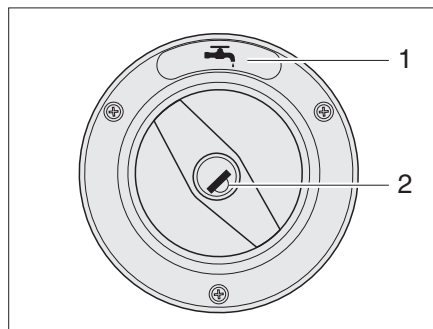
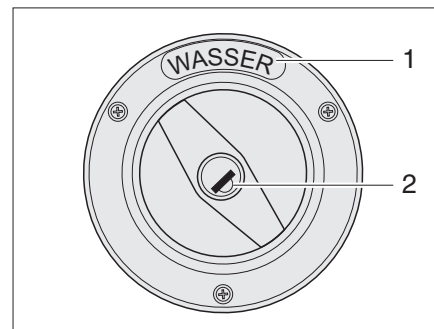

Fig. 5 Cap for the fresh water filler neck (Variant 1)
Fig. 6 Cap for the fresh water filler neck (Variant 2)
- ▷ The fresh water filler neck is identified by the symbol "☰" (Fig. 5,1) or the word "WASSER" ("WATER") (Fig. 6,1).
- Insert the key in the locking cylinder (Fig. 5,2 or Fig. 6,2) and turn it in an anticlockwise direction.